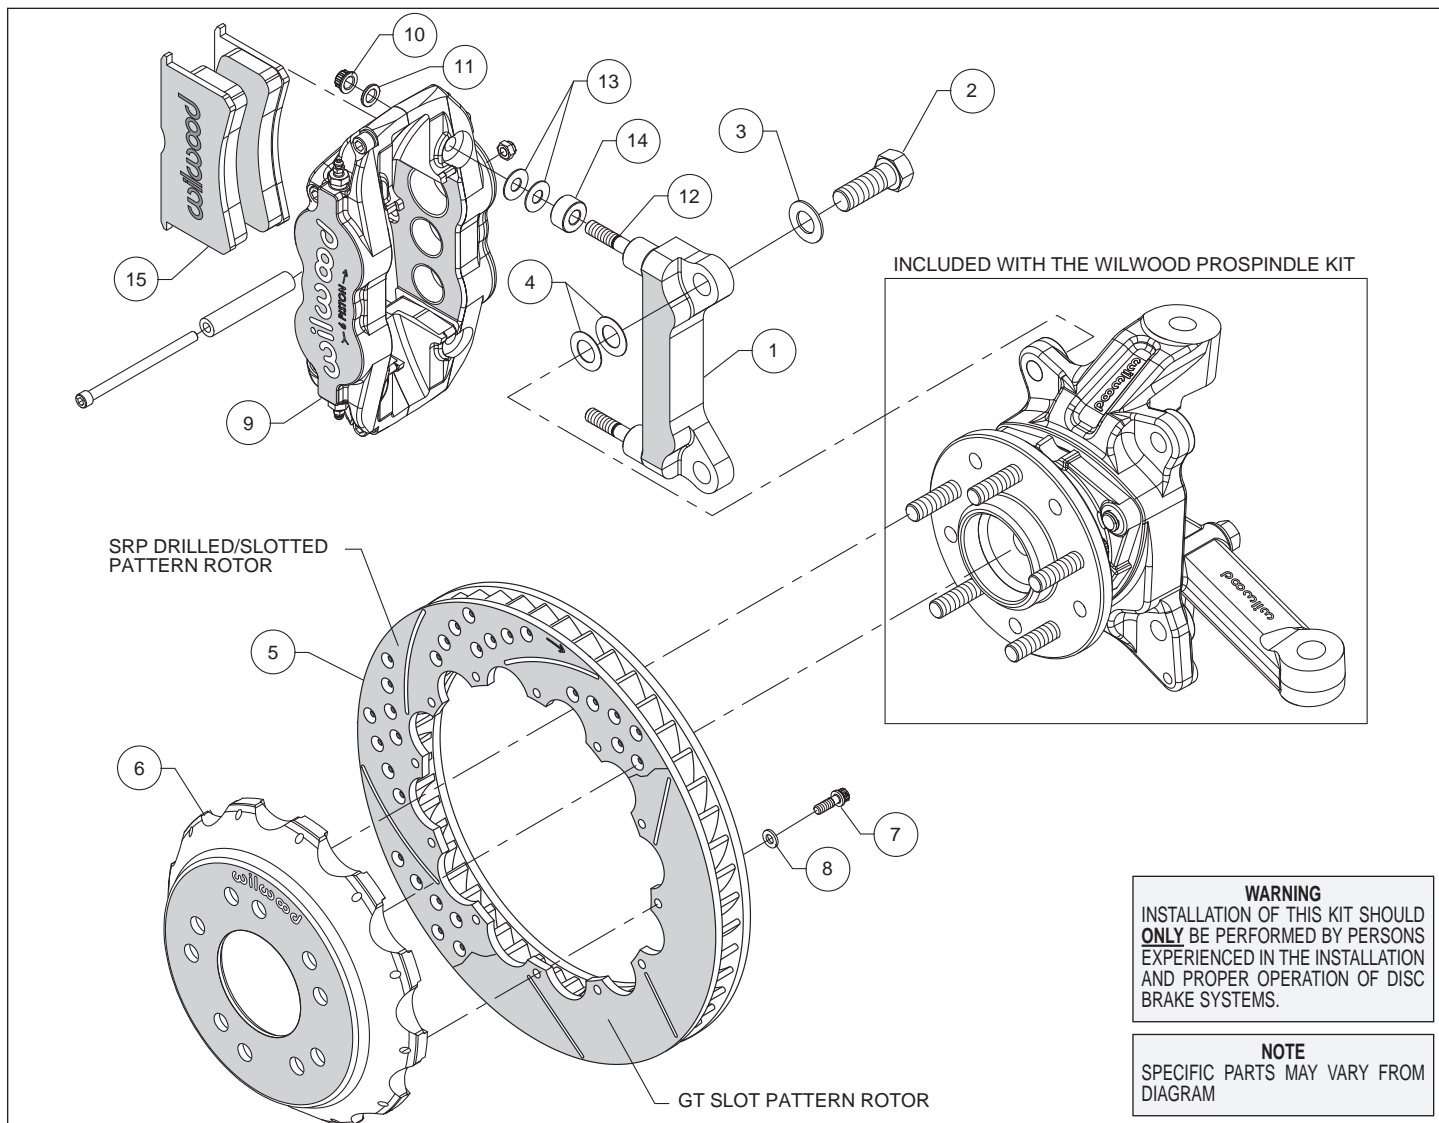
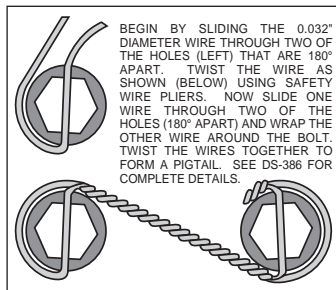

Figure 1. Typical Installation Configuration
Figure 3. Safety Wire Diagram
Assembly Instructions (numbers in parenthesis refer to the parts list and Figure 1 on the preceding pages):
• The caliper mount bracket (1) should initially be installed with clean, dry threads on the mounting bolts. Orient the bracket as shown in Figure 1 and Photo 1 and install using mount bolts (2) and washers (3). Initially place two .024" thick shims (4) on each bolt between the bracket and spindle, Figure 1. Temporarily tighten the mounting bolts. **NOTE:** The bracket must fit squarely against the mounting points on the spindle. Inspect for interference from casting irregularities, machining ridges, burrs, etc. Later, after the caliper alignment has been checked, the mount bolts will be secured using red Loctite® 271.
- Orient the rotor (5) and the hat (6) as shown in Figure 1 and Photo 2. Attach rotor to hat using bolts (7) and washers (8). Using an alternating sequence, apply red *Loctite*® 271 to the threads, and torque to 155 **in-lbs**. For an added measure of security, the bolts may be safety wired using standard 0.032 inch diameter stainless steel safety wire as shown in Figure 3. Please refer to Wilwood's data sheet DS-386 (available at www.wilwood.com/Pdf/DataSheets/ds386.pdf) for complete safety wire installation instructions.
- NOTE:** *This kit contains distinct right and left hand calipers that must be mounted in a specific direction, as described below.* Lubricate the caliper mounting studs (12) with lightweight oil. Initially place two .035" thick shims (13) and one spacer (14) on each stud between the caliper and the bracket, as shown in Figure 1 and Photo 5. Mount the caliper (9) onto the bracket (1) using lock nuts (10) and washers (11), Figure 1. Ensure that the caliper is mounted so the largest pistons are at the rotor exit end of the caliper, in relation to the direction of rotor rotation. Temporarily tighten the lock nuts and view the rotor through the top opening of the caliper. The rotor should be centered in the caliper, Photo 6. If not, adjust by adding or subtracting shims (4) between the bracket and the spindle. Always use the same amount of shims on each of the two mounting bolts. Once the caliper alignment is correct, remove the bracket mounting bolts one at a time, apply red *Loctite*® 271 to the threads, and torque to 140 ft-lb.